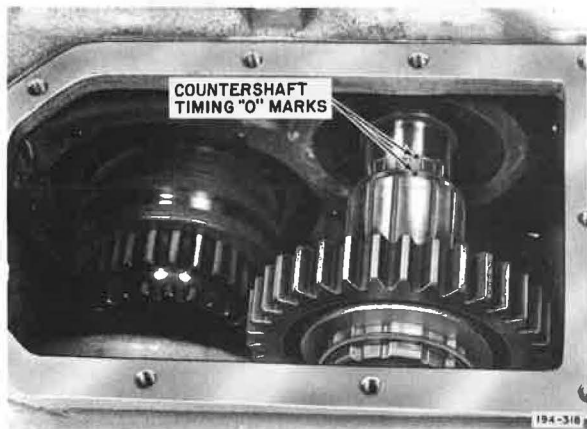

Figure 5-196. Aligning Timing "O" Mark on Rear Countershaft with Front Countershaft
10. Observe timing "O" marks on front and rear countershaft splines. See Figure 5-196. Align timing "O" marks on rear countershaft with timing "O" marks on front countershaft and continue advancing shaft until the countershaft rear bearing positioning snap ring seats against case.